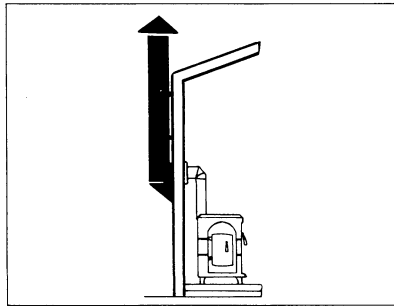

Figure 10
- (1) off the top and through a side wall; (see Figure 10)